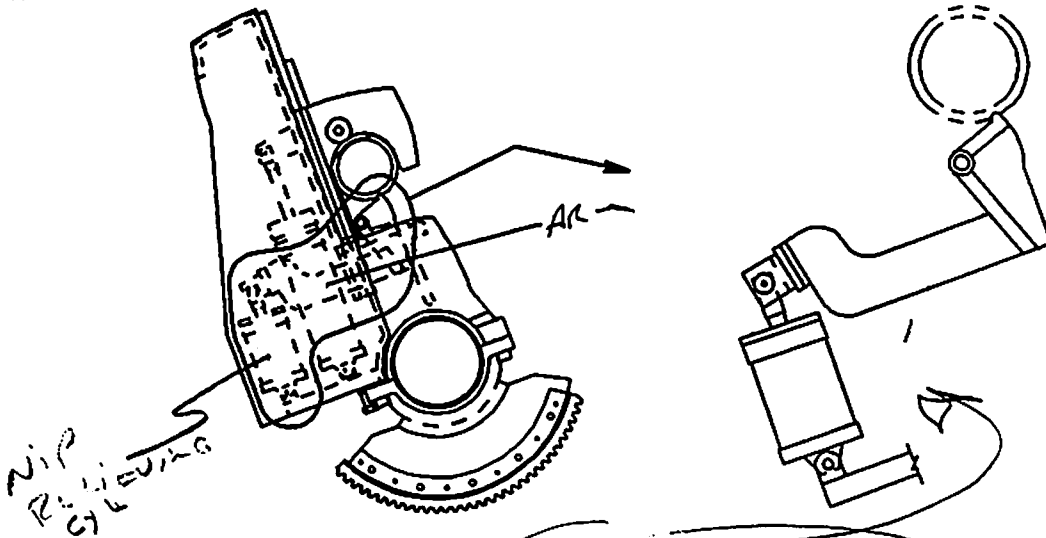

Figure 2-22 Primary Arm Nip Relieving
1. The hooks slide within the primary arms, activated by air cylinders mounted inside the arms (see Figure 2-22). The sliding surfaces to be lubricated with a dry lubricant to eliminate a buildup of paper dust. This contamination can cause a jerking sliding motion of the hook and possible wearing of the slide surfaces. Periodic cleaning and relubrication of the sliding surfaces are required. Check the air cylinders occasionally for leaking packing and air connections, worn or bent cylinder rods and worn pivots. Small shear pins are used in the cylinders to act as a safety device in case the hooks become restricted and can not be operated to the unload position when a spool building paper log is on the secondary rails.